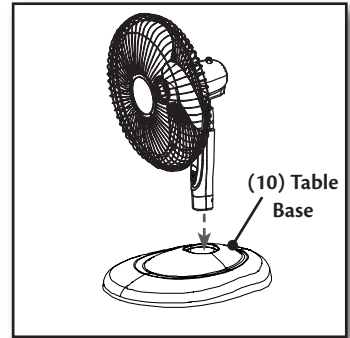

Figure 10.
1. Align the Fan Assembly over the Table Base (10) and push together until secure. **Figure 10.**